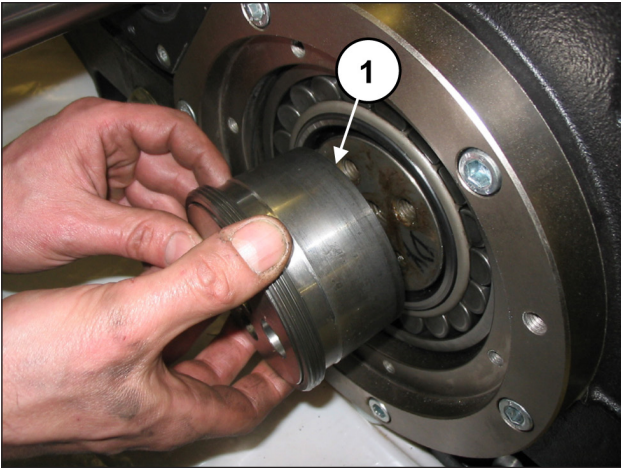

Fig. 20
Remove both pressure bushes (pos. ①, Fig. 20).